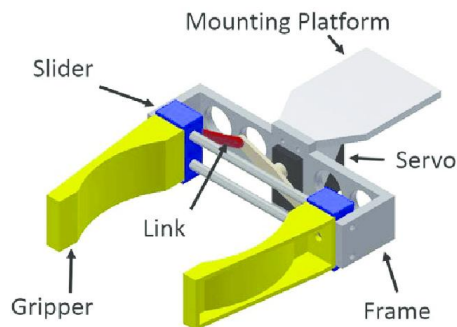

FIGURE 2: AN EXAMPLE OF A POSSIBLE GRIPPER DESIGN
- The gripper mechanism must be **attached** to the robot's arm and must function as an integral part of the robot's design (Refer to Figure 2).